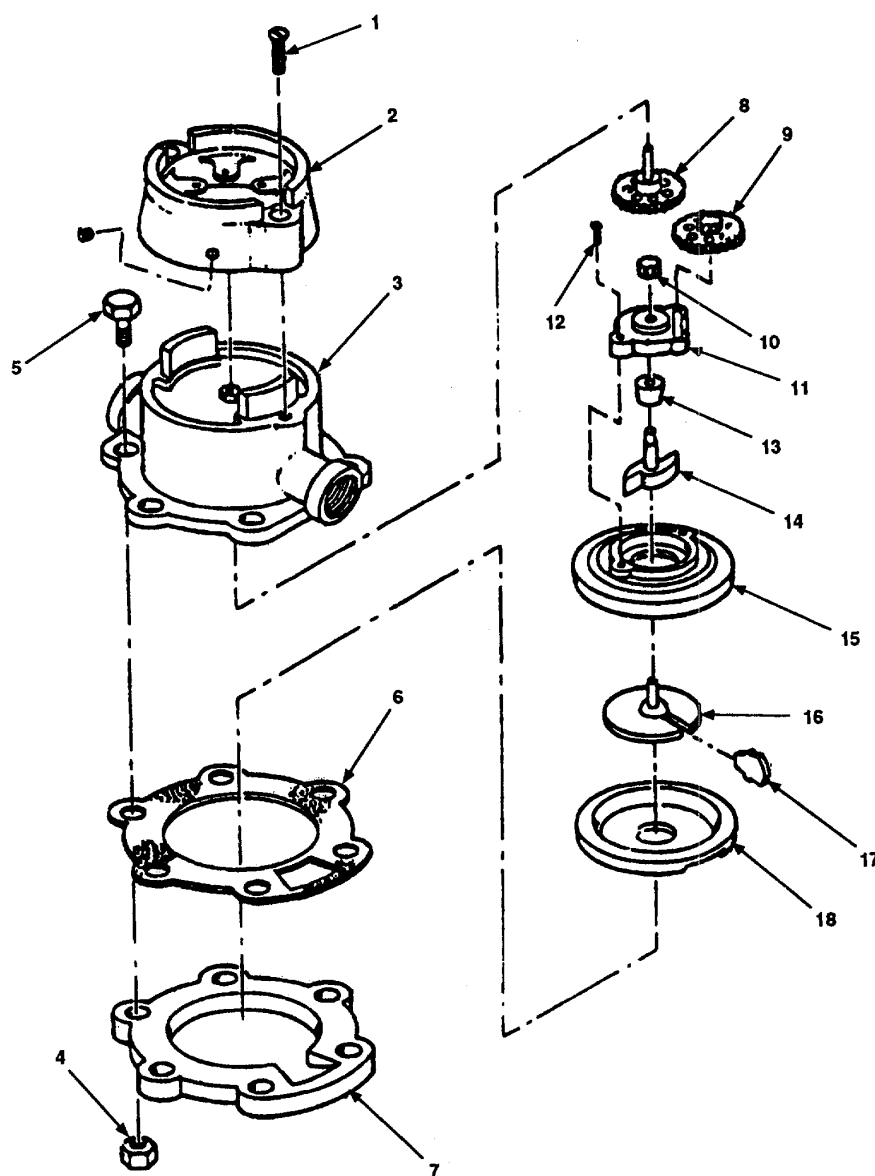

Figure 5-5. Water Meter Maintenance.
- a. Remove two screws (Figure 5-5, 1).
- b. Remove meter mounting cup (2) from top casing (3).
- c. Remove six nuts (4) and bolts (5).
- d. Remove top casing (3) and gasket (6) from bottom casing (7). Discard gasket (6).
- e. Remove top gear (8), first intermediate gear (9), and intermediate pinion (10) from gear plate (11).
- f. Remove two gear plate screws (12) and gear plate (11).
- g. Remove rubber roller (13) from drive shaft (14).
- h. Remove drive shaft (14) from disc chamber top (15).
- i. Remove top disc chamber (15) from rubber disc (16).
- j. Remove diaphragm (17) from rubber disc (16).
- k. Remove rubber disc (16) and bottom disc chamber (18) from bottom casing (7).